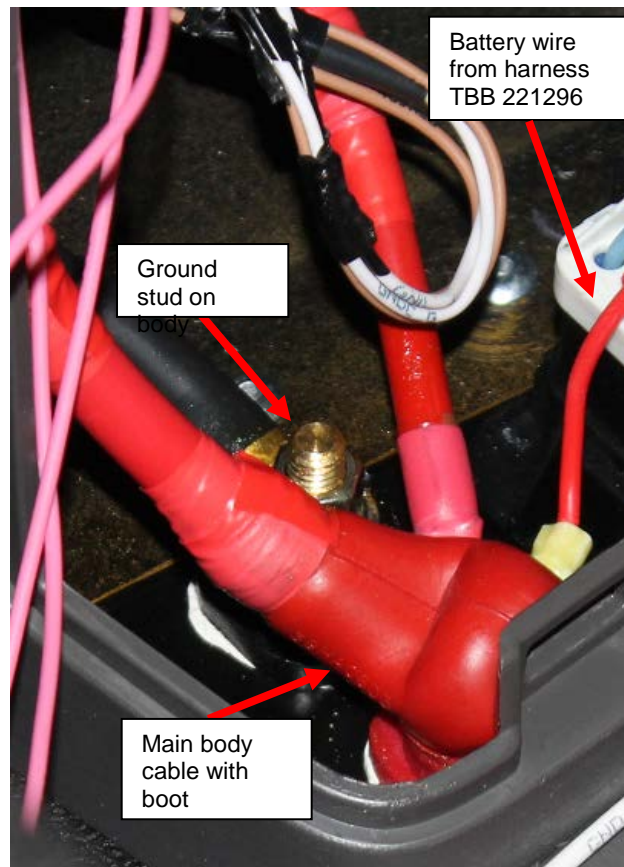

Figure 9: Battery Wire Installation
- 12.6 Pull the boot back over the battery cable. See **Figure 9** for final power cable installation.